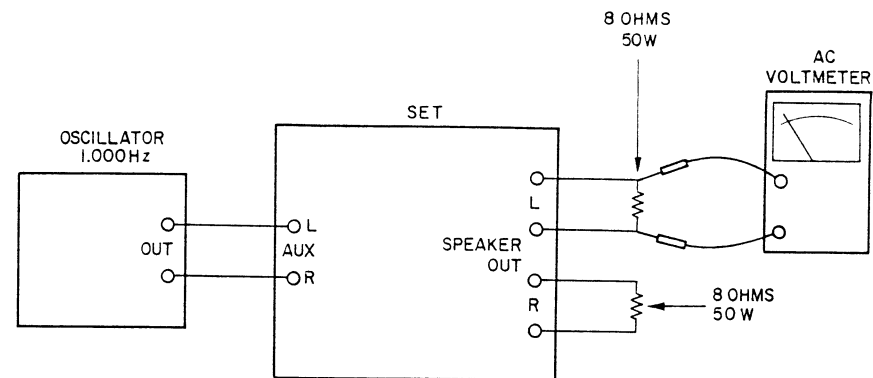

Fig. 7 Instrument Connections
2. POWER INDICATOR LED SENSITIVITY ADJUSTMENT (Refer to Figs. 7, 8)